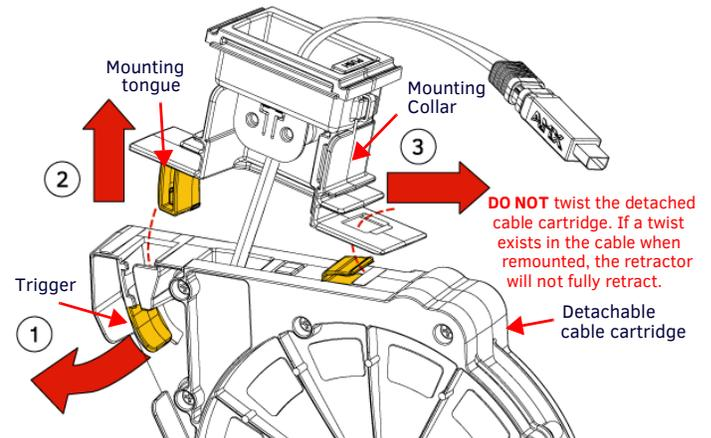

FIG. 4 HPX-AV102A-MDP-R MOUNTING COLLAR REMOVAL
6. Pull the cable cartridge trigger (FIG. 4) to release the mounting collar tongue.
4. Push the cable cartridge trigger up onto the mounting collar tongue until it latches (opposite of FIG. 4).
1. Detach the cable cartridge from the mounting collar as shown in FIG. 4.